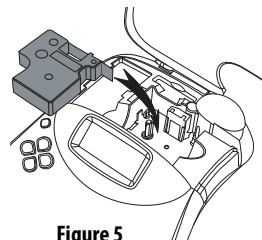

Figure 5
- 3 Insert the cassette and press firmly until the cassette clicks into place. See Figure 5 and Figure 6.